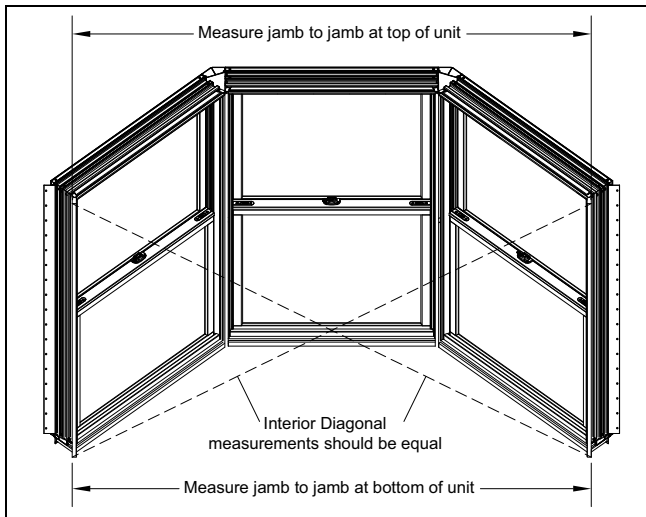

Figure 4
3. Refer to conversion chart on page 4 for proper jamb to jamb dimension (measured from outside to outside of jamb extension). Check jamb to jamb measurement at top and bottom of the assembly, it must be equal. Diagonal measurements of interior must also be equal to ensure mulled assembly is square. See Figure 4.